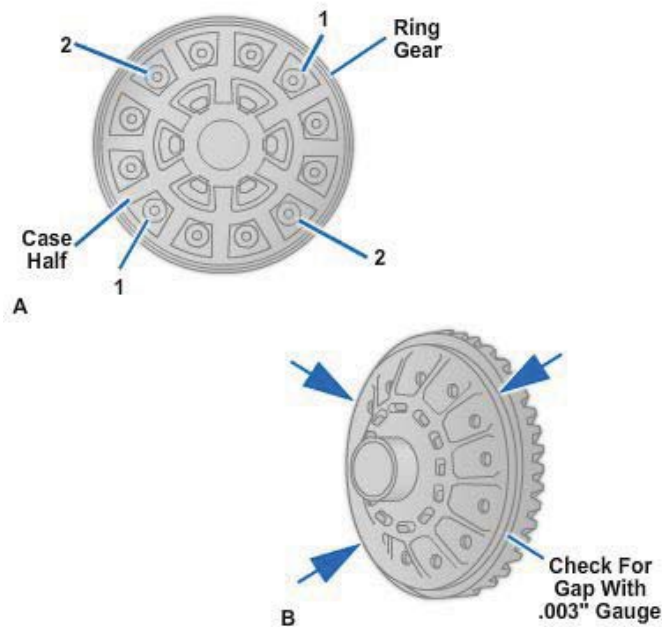

Figure 8-84 - Installing rivets to crown gear.
5. Tighten the bolts to the correct torque value. If rivets are used to hold the crown gear to the flange case half, install the correct size rivets in pairs opposite each other from the case half side of the assembly. The rivet heads must be against the flange case half (Figure 8-84, View A). Press the rivets into position from the crown/ring gear side of the assembly using a riveting pressure for at least 1 minute and check for gaps between the back surface of the ring gear and the case flange using a 0.003-inch thickness gauge (Figure 8-84, View B).